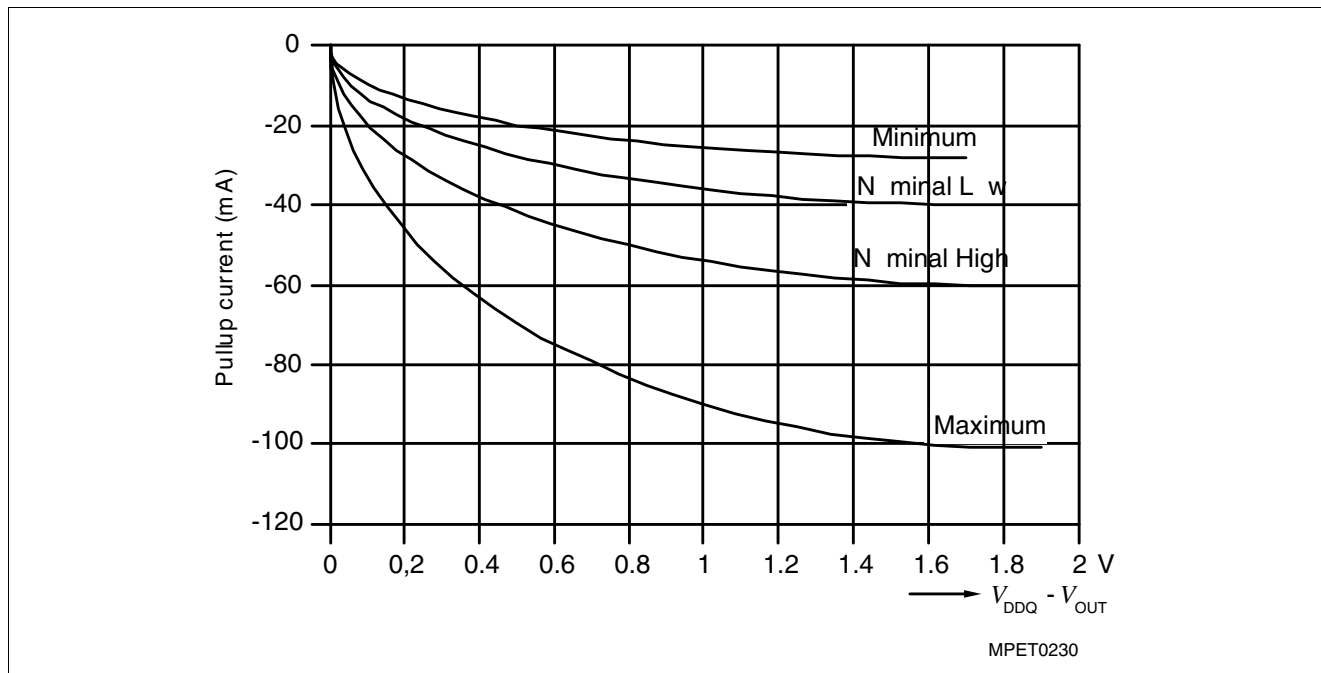
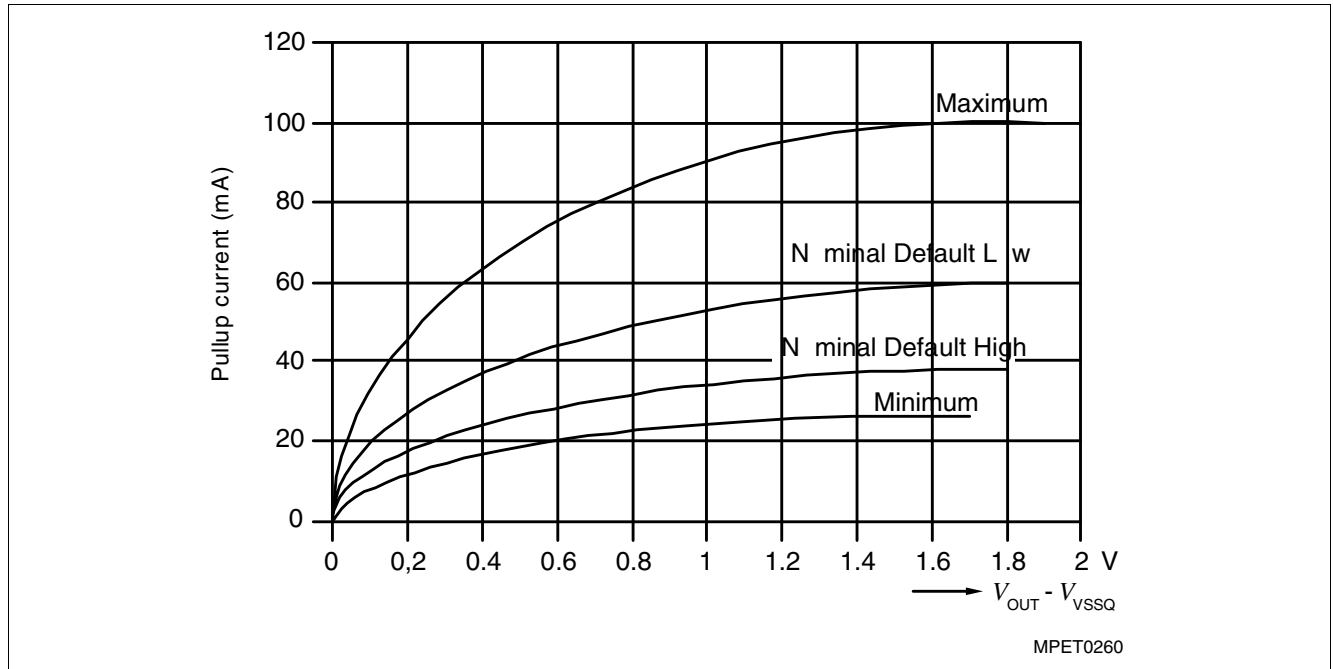

Figure 66 Full Strength Default Pull-up Driver Diagram
Figure 67 Full Strength Default Pull-down Driver Diagram
DDR2 SDRAM output driver characteristics are defined for full strength default operation as selected by the EMRS(1) bits A[9:7] = '111'. **Figure 66** and **Figure 67** show the driver characteristics graphically and the